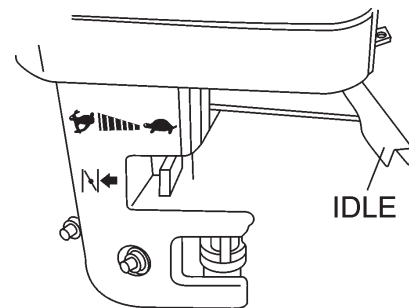

Figure 19. Throttle Lever (Idle)
- Move the throttle lever to the **IDLE** position (Figure 19) and run the engine for three minutes at low speed.